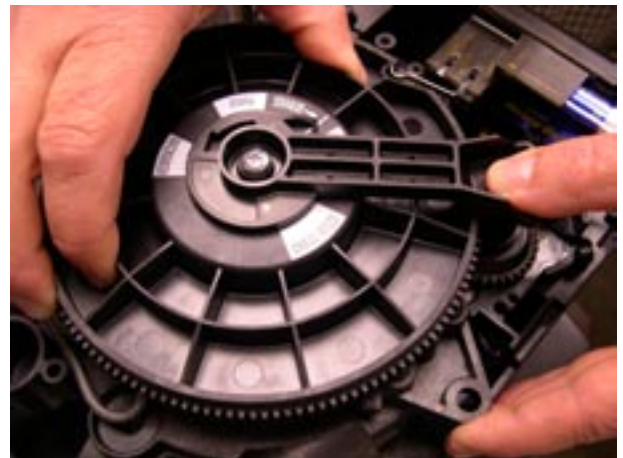

Figure 12
4. After the 20-minute purge cycle, manually advance the main gear to the backwash cycle and allow to run for a minimum of 10 minutes. (See Figure 12.)